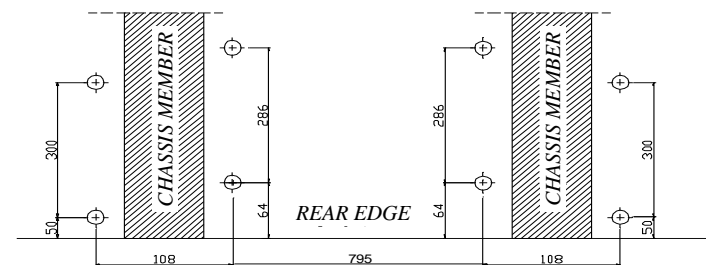

Fig. 1. Underneath view after bumper disassembly.
2. Underneath the car mark points according to figure 1. Next drill holes using bit  $\varnothing 11\text{mm}$ , make very carefully.
3. Inside the trunk put suitable upper fish-plates (pos.8).
4. Underneath the car put side brackets (pos. 4 and 5) and through holes (pos. A) and fish-plates (pos. 8) fix using bolts M10x35mm (pos. 10).
5. Underneath the car put fish-plates (pos. 6 and 7), next through holes (pos. B) and fish-plates (pos. 8) fix using bolts M10x35mm (pos. 10) .
6. Through holes (pos. C) fix main bar of the towbar (pos. 1) with side brackets using bolts M12x35mm (pos. 9).
9. Fix body of the automat and place tow-ball according to supplied instruction. Note! Remember to place socket plate (pos. 3) as shown on the drawing 1.